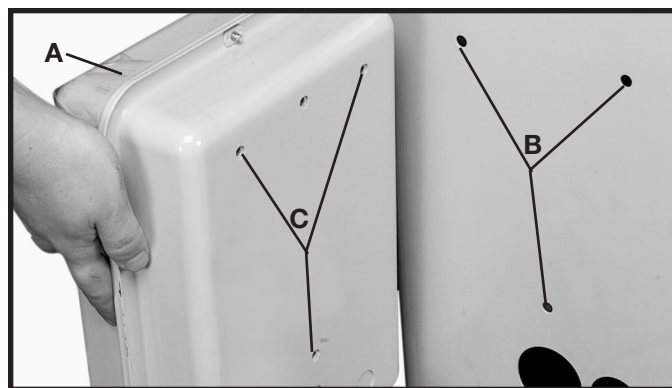

Fig. 7
If you purchased the machine with magnetic push button electrical controls (LVC), the saw is shipped with the starter box completely wired to the switch and motor. However, the starter box must be mounted to the saw cabinet. To assemble the starter box (A) Fig. 7, to the saw cabinet, proceed as follows:
1. Place a 1/4" lockwasher then a 1/4" flat washer onto a 1/4-20x1/2" hex head screw. From the inside rear of the saw cabinet, insert the 1/4-20 x 1/2" hex head screw into the hole (B) Fig. 7, in the cabinet. Repeat this process for the two remaining screws.
2. Line up the three tapped holes (C) Fig. 7, in the starter box with the screws and secure the starter box (A), to the saw cabinet.